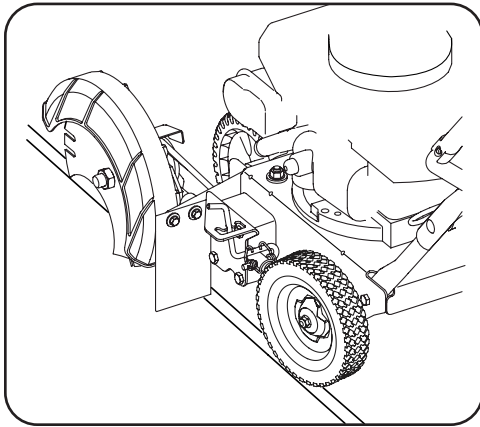

Figure 3-3
1. Move the edger to an area to be edged, making sure that the left rear wheel is on a hard surface and the blade is over the area to be cut. See Figure 3-3.